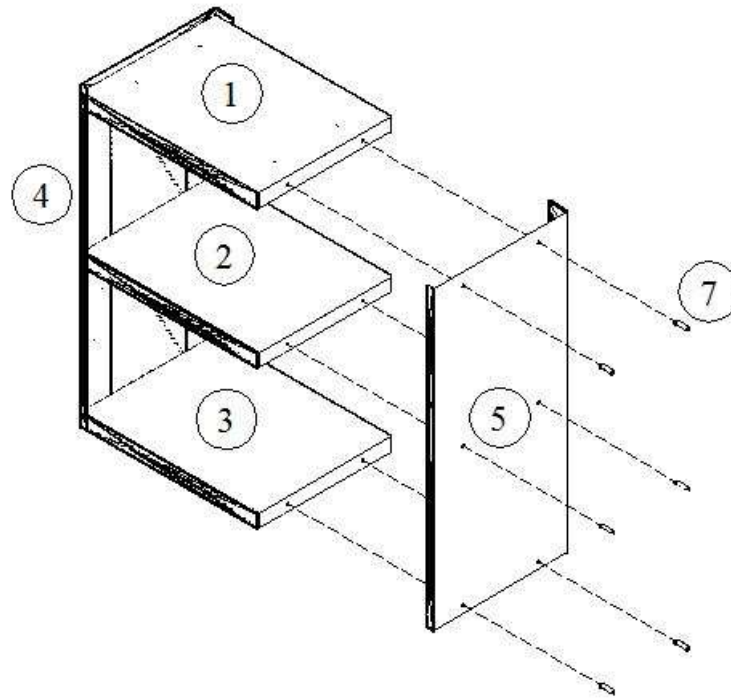

Figure 3
Attach the right side panel (5) to the top shelf (1), middle shelf (2) and bottom shelf (3) using another 6 of the enclosed sheet metal screws (7). As shown in Figure 3